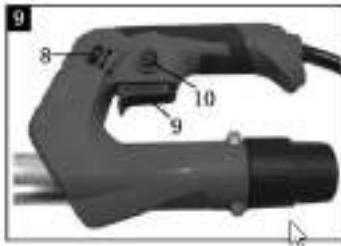

Fig. 9
### Starting (Fig.9)
To select the speed, turned the speed adjustable device (8) on the speed controller (Fig.9).